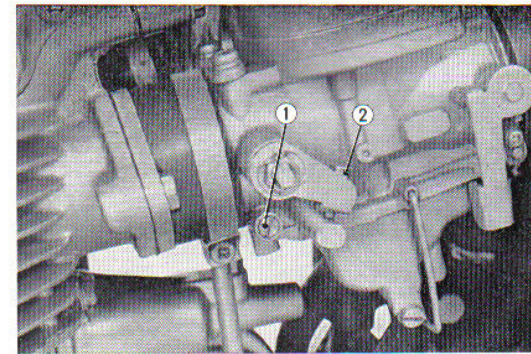

Fig. 6.27 Idling adjuster
- (1) Idle adjustment
- a. Adjust the stop screw ② so that the exhaust back pressure is the same for both the right and left side. If the engine speed does not decrease when the stop screw is screwed out, loosen the lock nut and screw in the cable adjuster by about one turn. The engine rpm at this point is between 1,000~1,200 rpm.
- b. Starting with either the right or left carburetor, manipulate the pilot screw ① and find the point of highest rpm; the same should be done with the opposite carburetor. Turning the pilot screw in will give a high fuel air mixture, turning the screw out will give a lean mixture. The pilot screw ① should be set at a point $1\sim1\frac{1}{4}$ of a turn out from full close.
- d. Repeat the procedures from paragraph (a) through (c) several times so that the pilot screw is set to provide the specified rpm and that the same exhaust back pressure is obtained at both the right and left sides. (Fig. 6.27)
(2) Synchronizing the throttle valve